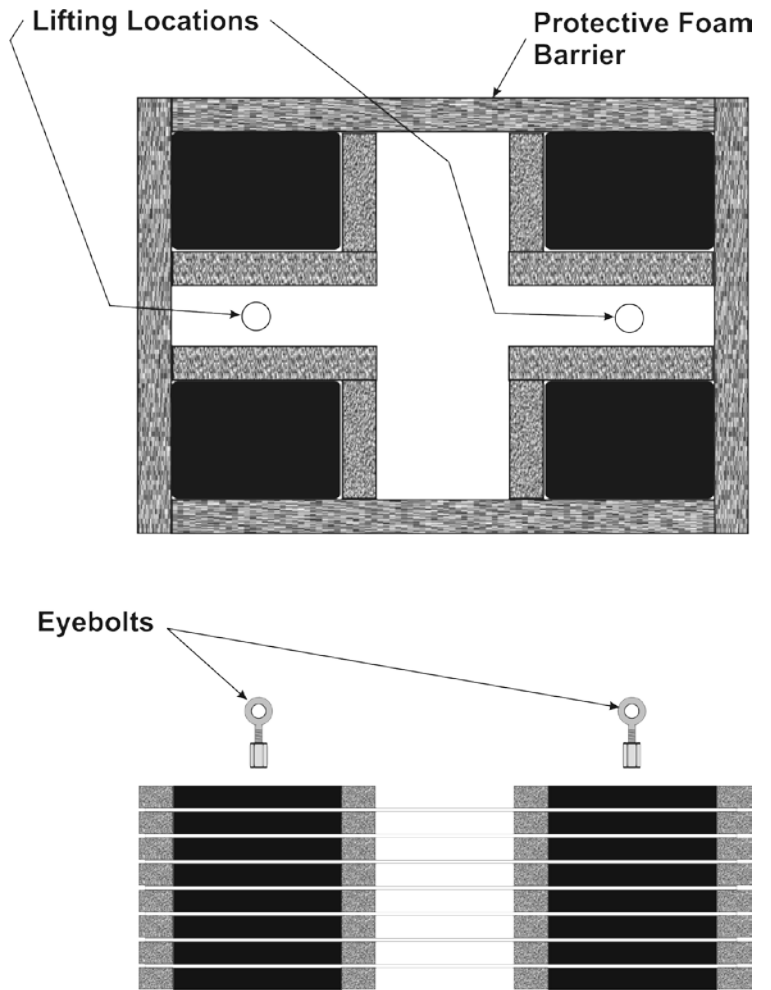

FIGURE 5
11. The isolation elements should be lifted and installed into the foundation pit using the two supplied 3/4-10 UNC or 20mm x 2.5 eyebolts and couples. See Figure 5. The number of eyebolts required will depend on the physical size of the isolation elements.